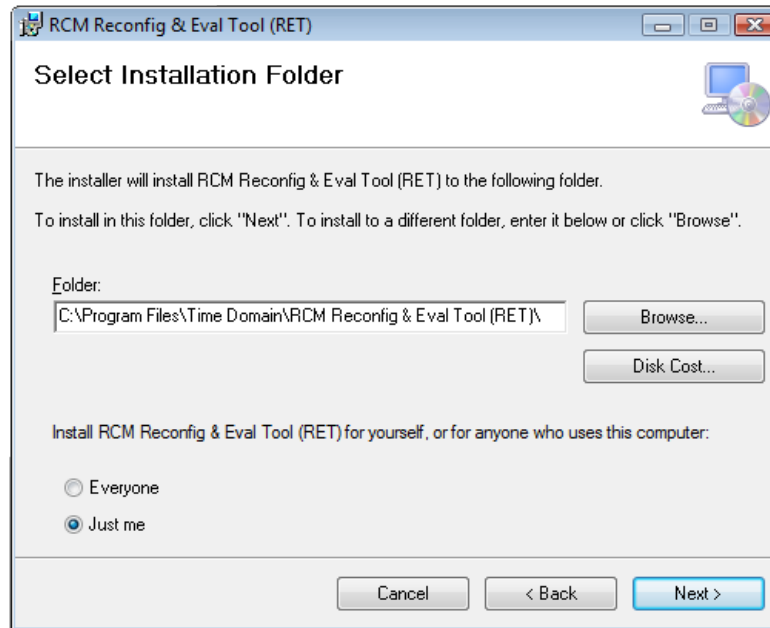

Fig. 3: Screen for designating Program Files location for P400 RCM RET software
5. When you reach the screen shown in Fig. 3, you will be given a choice of directories into which the RET software can be loaded.